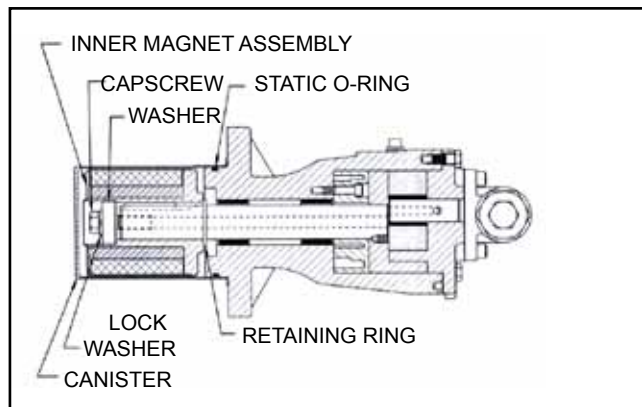

FIGURE 17
3. Insert a brass bar through a port between two rotor teeth and loosen the capscrew holding the inner magnet to the shaft (**See Figure 17**). Slide the washer, lock washer and inner magnet off the shaft. Do not forget this is a very strong magnet. If pump disassembly is required, remove second external retaining ring.